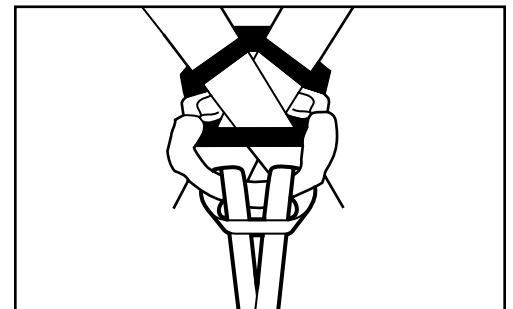

Figure 3: Loop D-Ring with Loop Lanyard
4.2.3 For Lanyards with Loop attachment: Always connect the loop to the harness D-ring or D-ring loop (See figure 3).